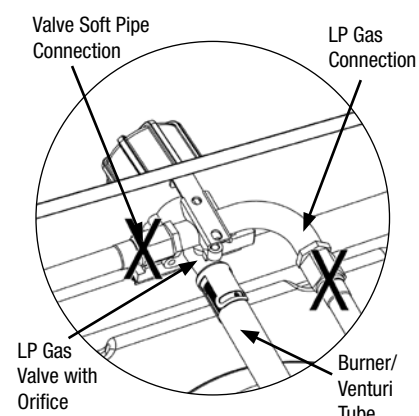

Figure 3
- Make sure control knobs are in the "OFF" position (Figure 3).
- All control knobs must be in the "OFF" position (Figure 3).
- Control knob must be in the "OFF" position (Figure 3).